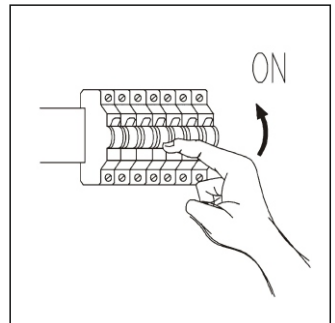

Fig.6
**Step 6:** Power up the fitting to check if it functions correctly (Fig.6).